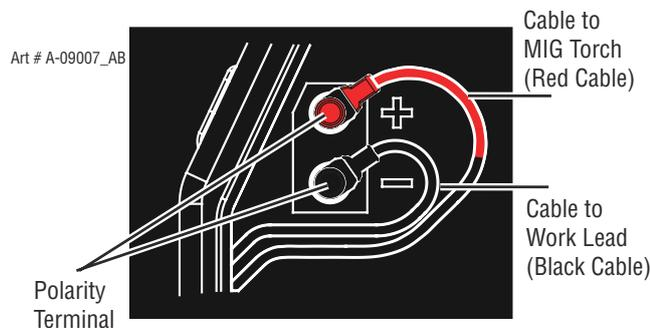

Figure 3-6: Connection for GMAW (straight polarity)
3. Set up the polarity (as per Table 3-1 above) by removing the leads from the terminals and reversing them if necessary. Refer to Figure 3-6.